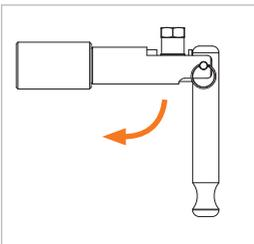

Figure 5
- ▶ Actuate the clamping lever (Pos. 2) upwards or downwards (*Figure 5*). The connector tightens itself to the test piece and creates a pressure-tight connection.